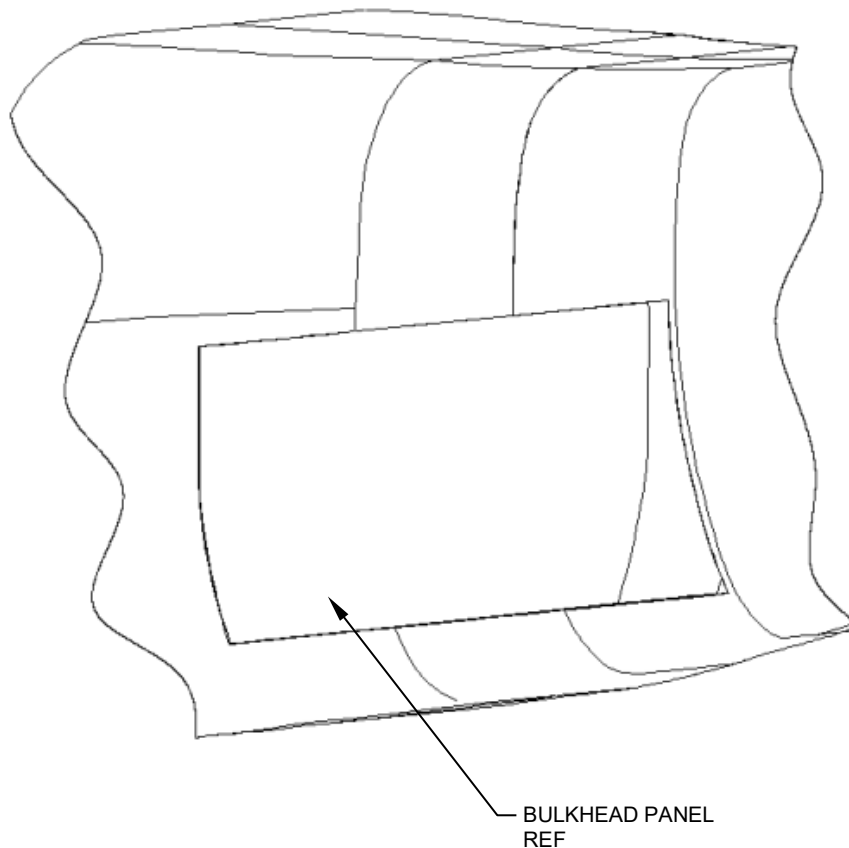

Figure 1
1. Gain access to the baggage compartment bulkhead. Reference Figure 1.